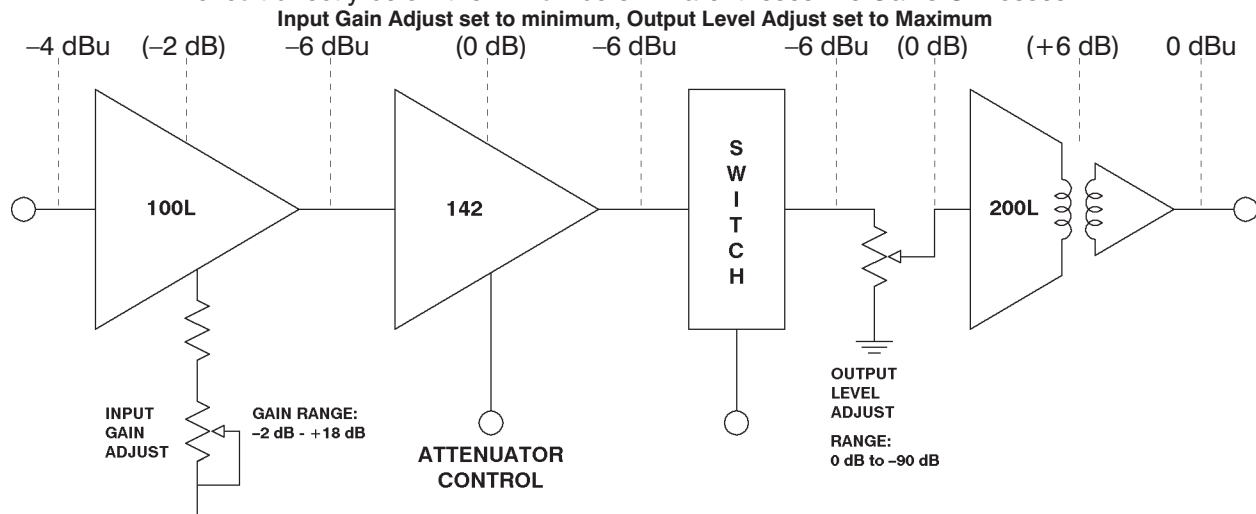

Figure 2 - Gain Structure
1. Locate a proper slot in the mainframe. Mainframe slots are set up on the rear panel of the mother board according to the card type to be used. Slots are dedicated by installing the proper trimpots. Trimpots **MUST** be installed as indicated in Figure 2 and 3 for inputs and outputs to function. Microphone level inputs require 200 $\Omega$  trimpots. All others require 10 k $\Omega$  trimpots. Slots labels are applied at the factory above each slot position. Single input cards such as the 5101VS, 5101VS-8, 5151VS, and are labeled 'SPECIAL', as are any specially made cards. With the exception of the SPECIALs, cards may be inserted in any slot with a matching label.
The gain structure diagrams in Figures 2 - 3 show the signal levels and gains or losses at key points in the cards. Since all outputs on a card behave identically, only one output is shown in the diagrams. In the examples the Input Gain Adjust pots were set for minimum